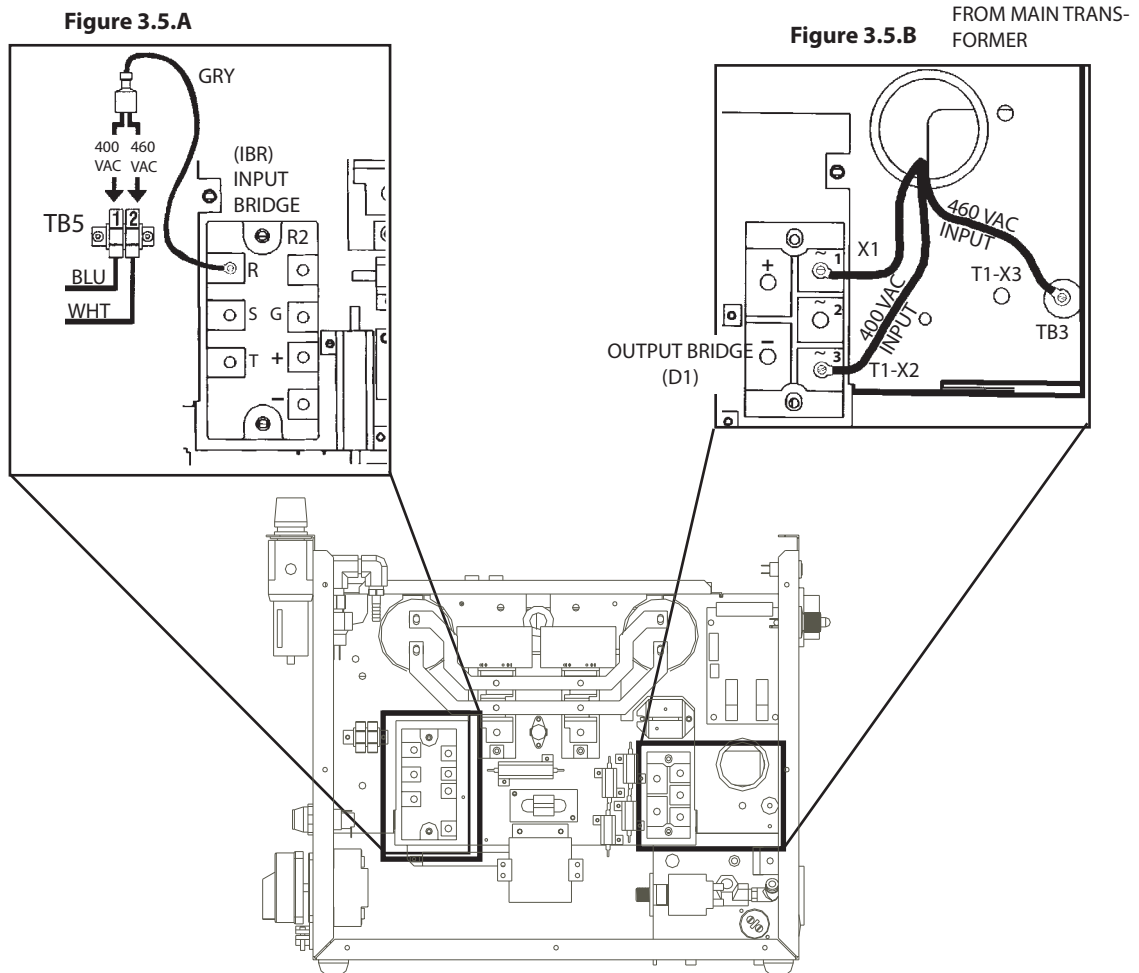

Figure 3-5. Original Factory Setup for 460 Vac Input on Power Source with 400/460 Vac Input Power Capability
If using (380-400) V input power, the ESP-50 must be reconnected as directed in Section 3.8, Figure 3-5.
2. Locate the Input Bridge (IBR) and TB5 terminal block (see Figure 3.5.A) on the left side towards the rear panel. Disconnect the gray lead from TB5-2 and then connect it to TB5-1.
3. Locate the output bridge (D1) on left side towards the front panel (see Figure 3.5.B). Disconnect and swap leads X2 and X3 from the main transformer. For 400 vac input, X2 is connected to TB3 and X3 is connected to terminal 3 of D1. Make sure the connections are firmly tightened.